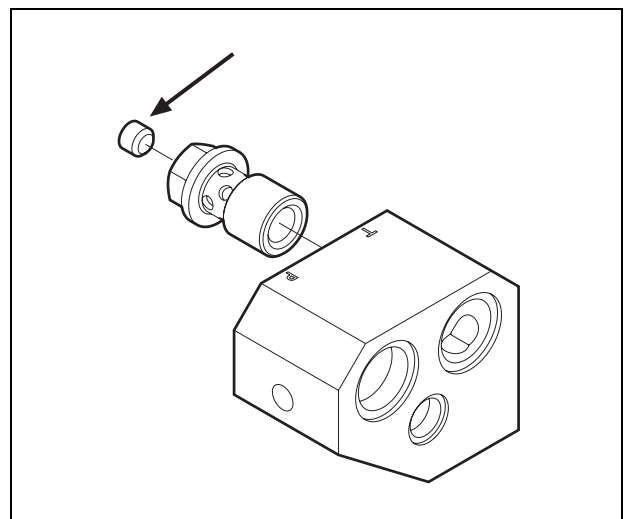

Fig. 25 Adjust the pressure by replacing the restrictor
7. If necessary, shut down the machine and adjust the tension pressure by replacing the restrictor in the saw motors return line. See Fig. 25.